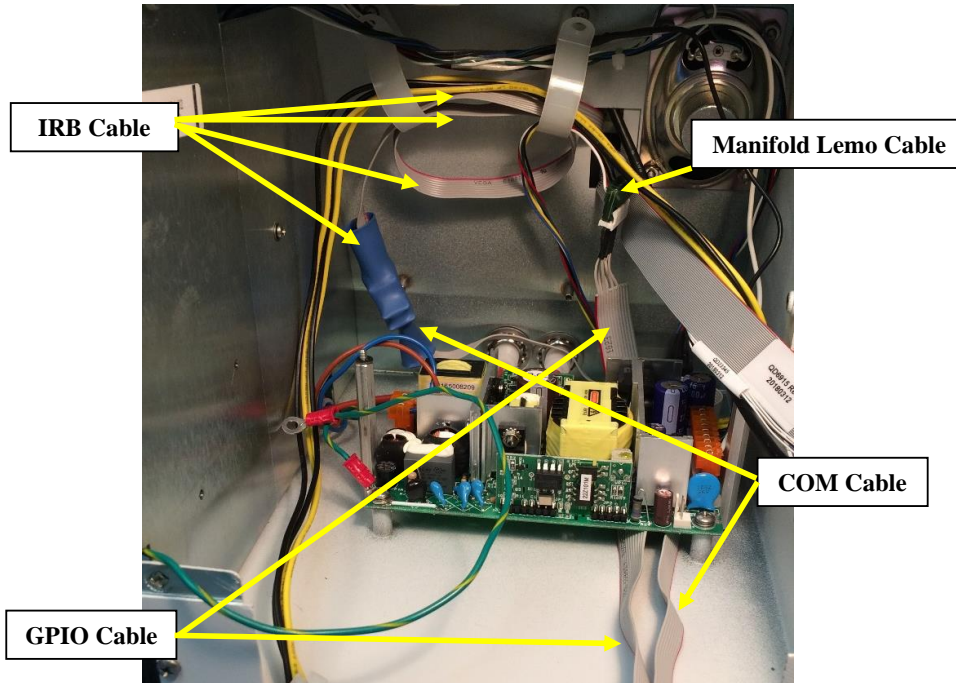

Figure 54
- 20.5. Connect the MB80580 GPIO Cable (10369-0020-08) to the Manifold Lemo Cable (made in Step 5) as shown in Figure 54. Note: Red wires are on the same side.
- 20.6. Thread the IRB Cable (coming from the display) through the Plastic Loop Clamps as shown in Figure 54. Thread the IRB Cable through again, as shown. Thread the free end of the COM Cable (attached in Step 20.4) under the Power Supply, towards the right, as shown.
- 20.7. Hook the Manifold Lemo Cable over the closest Plastic Loop Clamp as shown in Figure 54. Thread the GPIO Cable (attached in Step 20.5) under the Power Supply, towards the right, as shown.